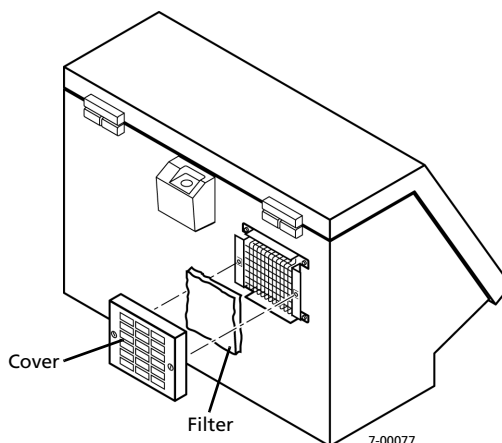

Figure A-2. Cooling fan cover
1. Remove the cooling fan cover from the back of the ventilator by loosening the two screws (see Figure A-2).
4. Reposition the cooling fan cover and tighten the two screws (see Figure A-2).